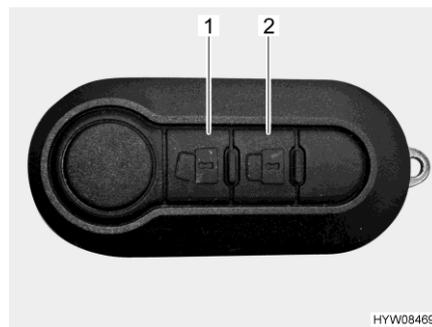

Fig. 67 Remote control for central locking system (2 buttons)
- Unlocking doors: ■ Press the  button (Fig. 67,1) once briefly. The door locks are unlatched.
- Locking doors: ■ Press the  button (Fig. 67,2) once briefly. The door locks are locked.